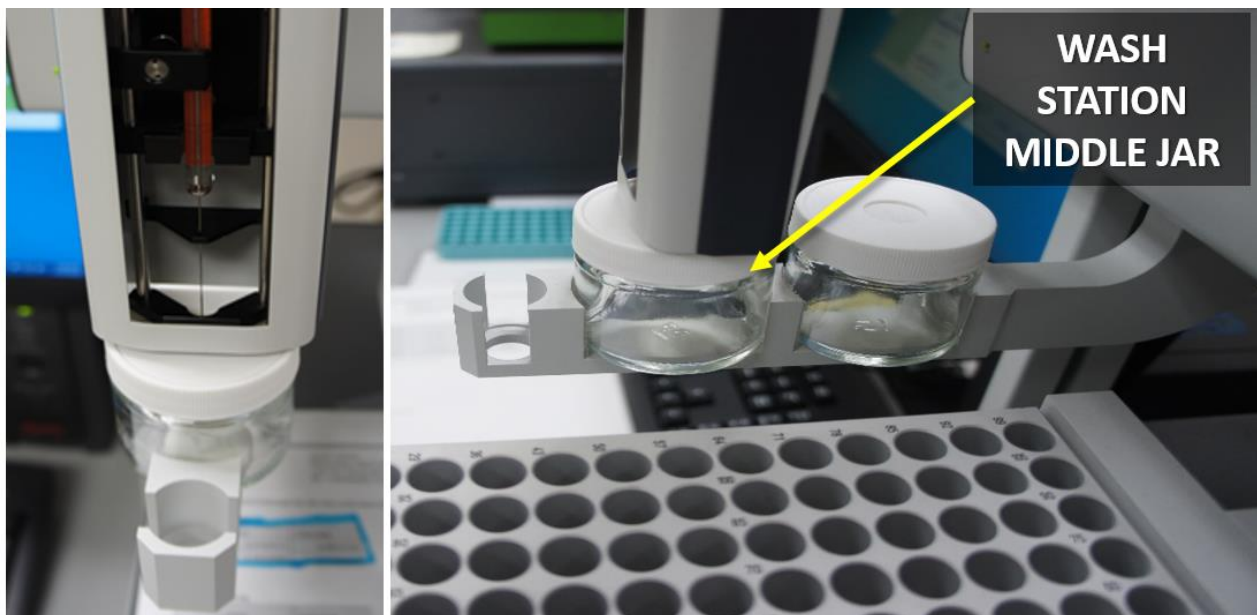

Figure 138. Wash Station: Train Manually to Middle Jar.
STEP 17 | Ensure the wash station components are in place and the middle jar contains DI water. Move the Syringe to the Wash Station and lower it over the **MIDDLE JAR** (Figure 138).